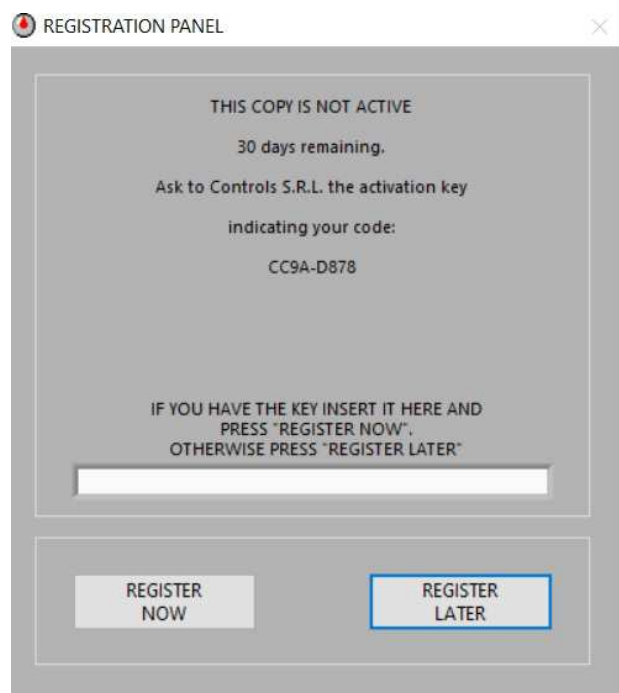

Fig. 6-31
During the trial period, the registration window (Fig. 6-31) is displayed every time the software is started. To use the software without registering, click the **Skip** button. The number of days remaining in the trial period is displayed in red at the top of the window. The software can still be registered even if the trial period has expired.
2. On the Registration Panel that appears when the module starts (Fig. 6-31), you will see a **Registration number**.